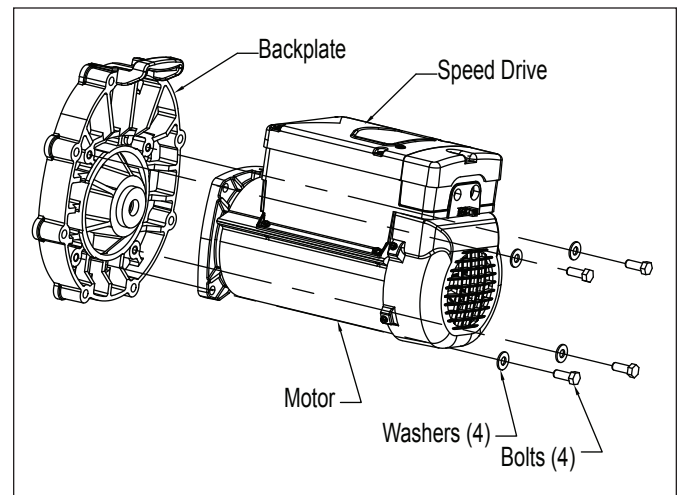

Figure 16. Backplate Assembly
4. Note the alignment of the backplate to the motor, as shown in Figure 16. Place the backplate motor assembly o-ring side down, unscrew the four 9/16" screws, and remove the motor.
6. Replace the four (4) bolts and washers holding the backplate to the motor.